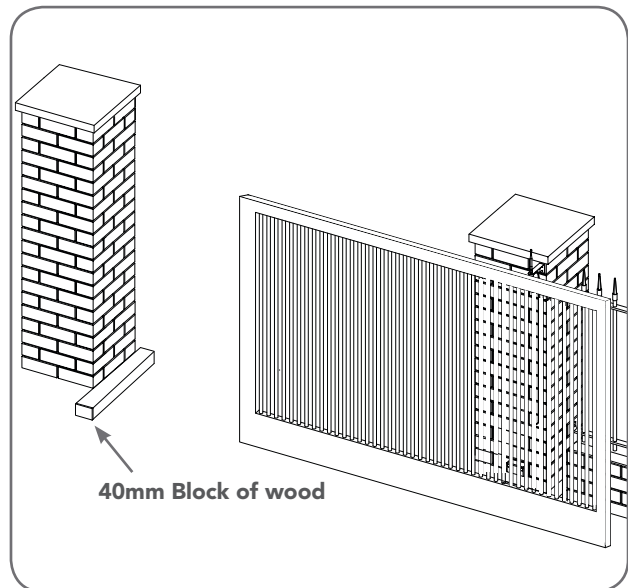

Fig 9.1
- Place a piece of timber approximately 40mm wide on the ground directly next to the closing pilon / fence (**Fig. 9.1**).